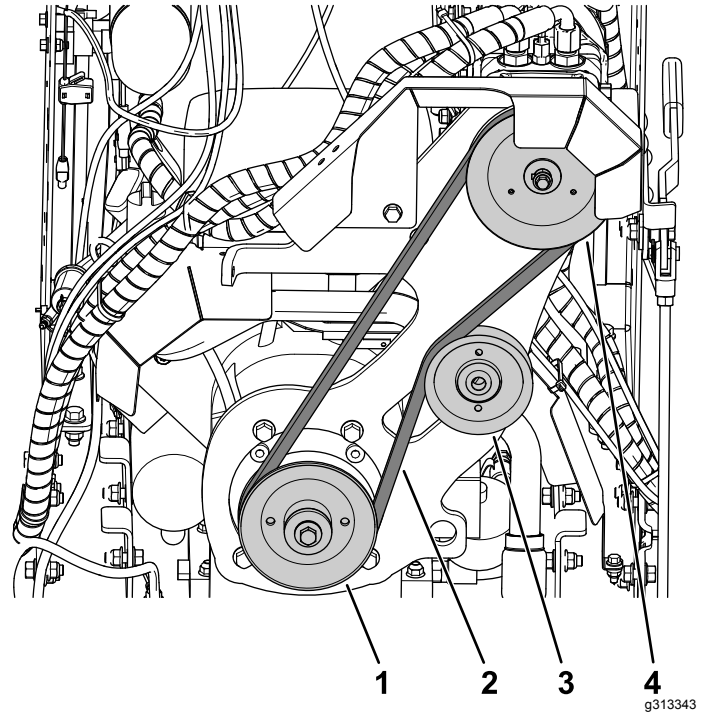

Figure 92
5. With the tension arm pulled away from the pulley system, route the new belt, starting at the hydraulic-motor pulley, then around the engine pulley and tensioner pulley (Figure 92).